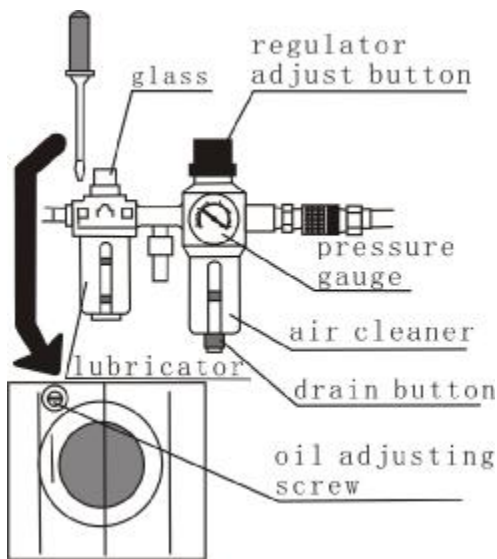

Fig.34
- I As shown in Fig.34, there is a button on the regulator. When pulled up, the pressure can be increased or decreased by turn it clockwise or counter-clockwise. After adjusting the operation pressure, press the button down to lock it.